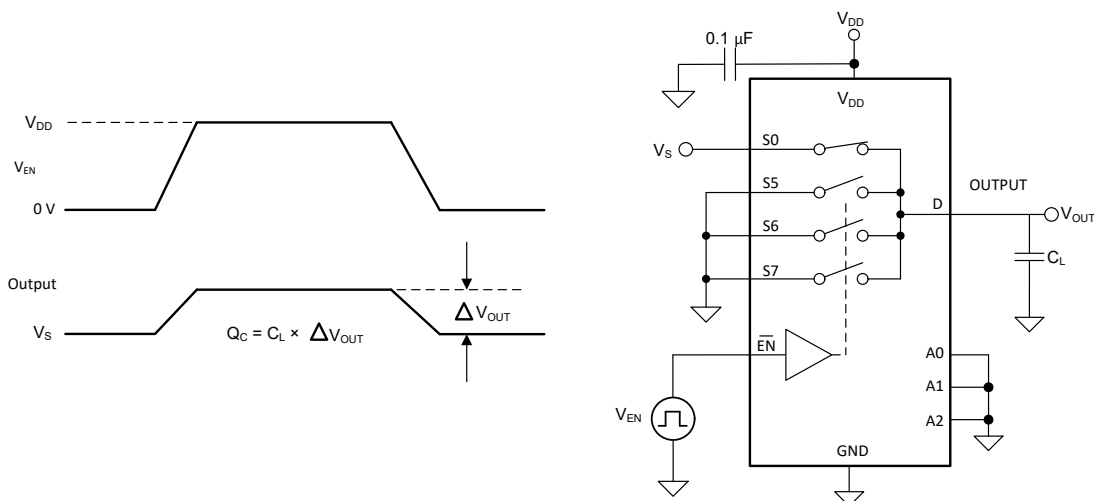

Figure 8-8. Charge-Injection Measurement Setup
Any mismatch in capacitance between the NMOS and PMOS transistors results in a charge injected into the drain or source during the falling or rising edge of the gate signal. The amount of charge injected into the source or drain of the device is known as charge injection, and is denoted by the symbol Q_C . Figure 8-8 shows the setup used to measure charge injection from source (Sx) to drain (D).